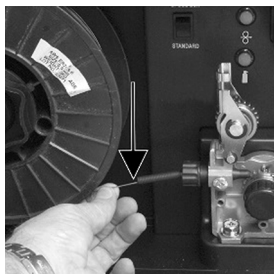

Figure 13.
5. Snip the wire carefully. Be sure to hold the wire to prevent the spool from uncoiling. Carefully feed the wire into the wire feed mechanism's inlet guide tube (Fig. 13).